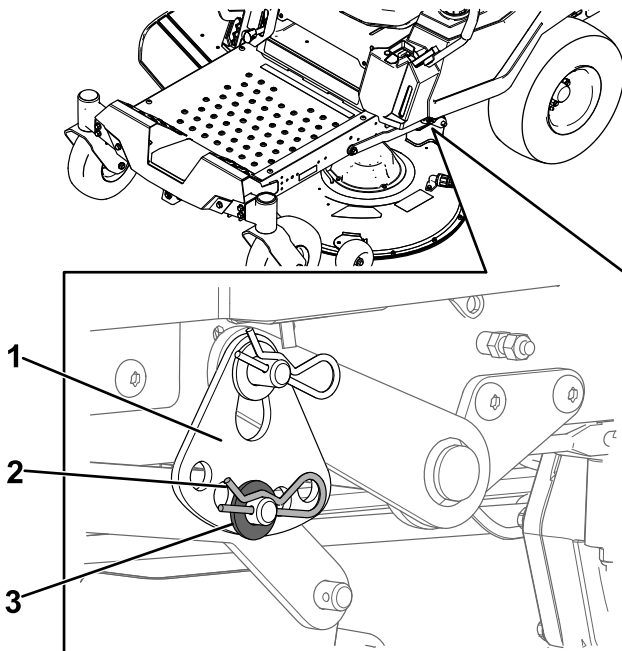

Figure 70
6. Remove the hairpin cotter and washer from the lower lift-arm pin (Figure 70).